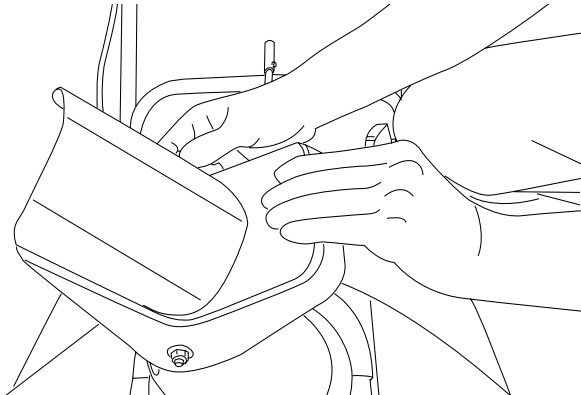

Figure 6
2. Lift the chute deflector and lock securely onto the discharge chute (Fig. 6).